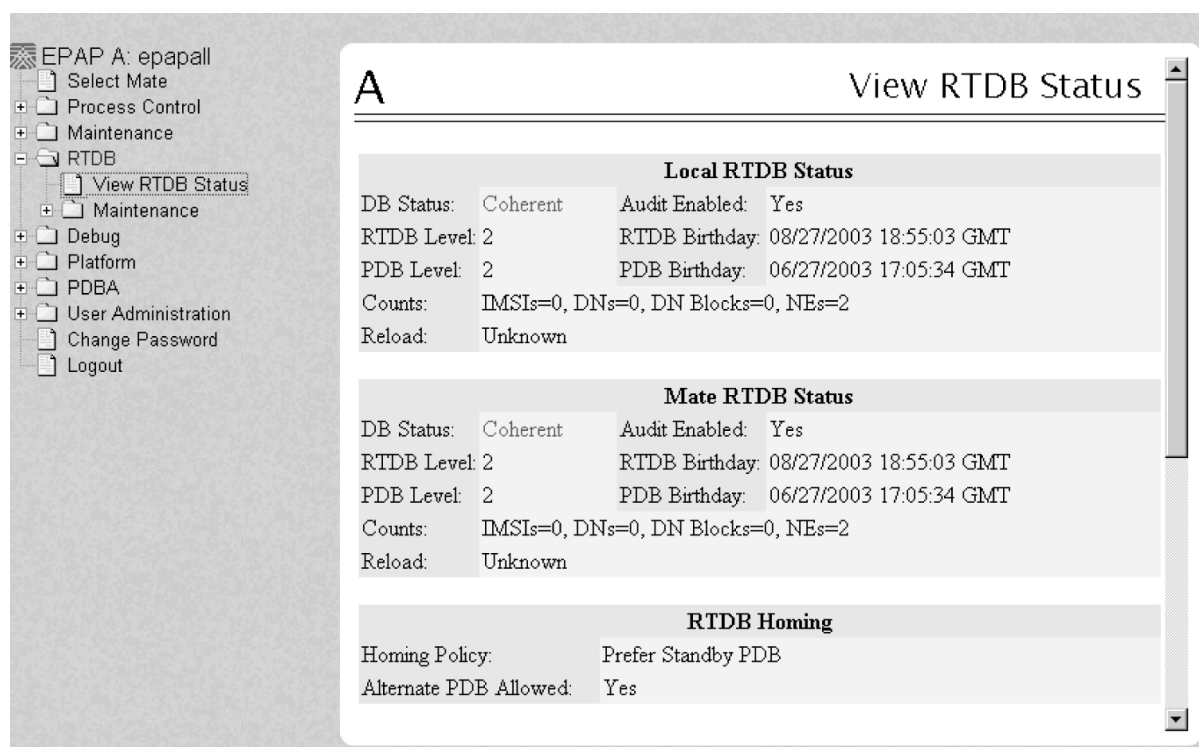

Figure 34: RTDB Status
3. From the menu, select **RTDB>View RTDB Status** to display status information about the RTDBs. Figure 34: RTDB Status shows an example.